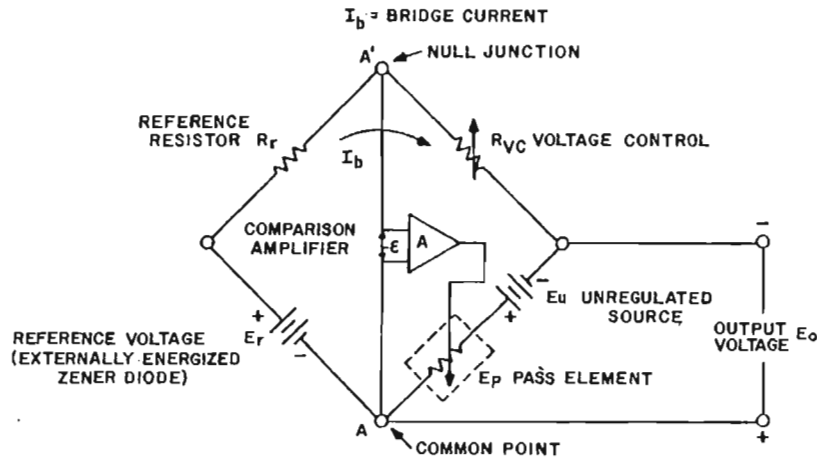

FIG. 3-6 EQUIVALENT CIRCUIT, KEPCO POWER SUPPLY, VOLTAGE MODE.
3-30 GENERAL. A few general remarks may be in order to familiarize the user of this equipment with the terminology and basic equations pertaining to remote programming of the power supply in the voltage mode. Electrically, in the voltage mode, the power supply can be represented by the unregulated d-c source ( $E_u$ ), the voltage across the pass element ( $E_p$ ), the d-c error amplifier (A) and a comparison circuit which resembles a 4-arm electrical bridge. (Refer to FIG. 3-6.) The elements of the bridge are arranged to produce a virtual zero at the amplifier input when the bridge circuit is at balance ( $V_{AA'} = 0$ ). Any tendency for the output voltage to change in relation to the reference voltage ( $E_r$ ) creates an error signal ( $\epsilon$ ) which, by means of negative feedback and the amplifier, tends to correct the output voltage towards restoration of bridge balance.